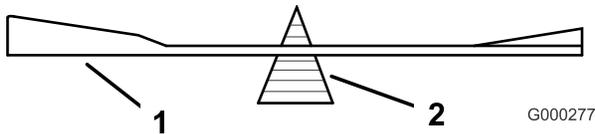
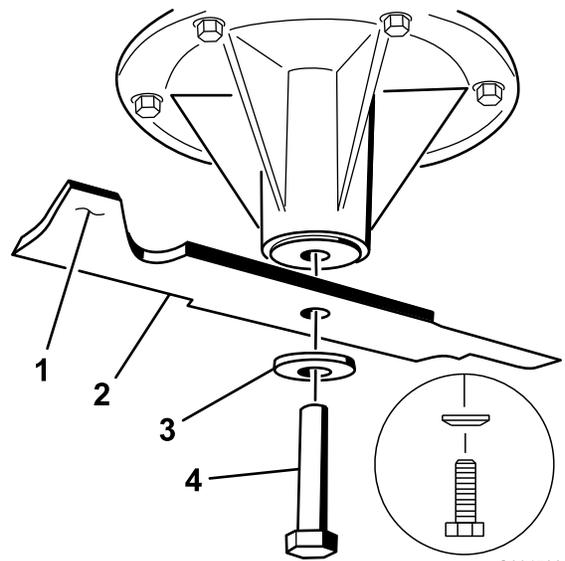

Figure 87
Figure 88
- Remove the blade bolt, curved washer, and blade from the spindle shaft (Figure 88).
- Check the balance of the blade by putting it on a blade balancer (Figure 87). If the blade stays in a horizontal position, the blade is balanced and can be used. If the blade is not balanced, file some metal off the end of the sail area only (Figure 88). Repeat this procedure until the blade is balanced.
- Install the blade onto the spindle shaft (Figure 88).
- Install the curved washer and blade bolt. The curved washer cone must be installed toward the bolt head (Figure 88). Torque the blade bolt to 85-110 ft-lb (115-150 N-m).